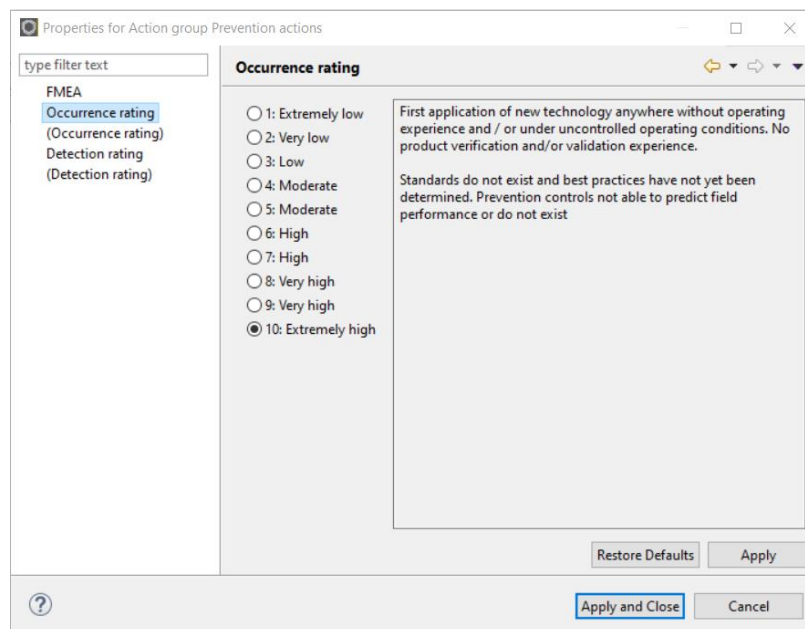

fig. 21 Dialog "Properties for Action group Prevention actions" – Occurrence rating
- ▶ Alternatively you can directly switch to the dialog for the detection rating by clicking on Detection rating in the „Properties for Action group...” dialog (fig. 21).
When using a single action group, the rating for the current state respective target state is set by the rating with respective without parentheses as shown in fig. 21: “Occurrence rating”, “(Occurrence rating)”, “Detection rating”, “(Detection rating)”.